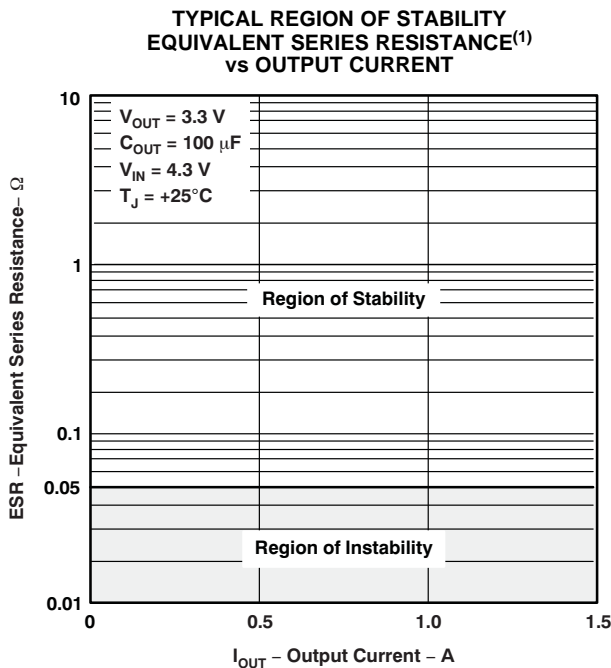
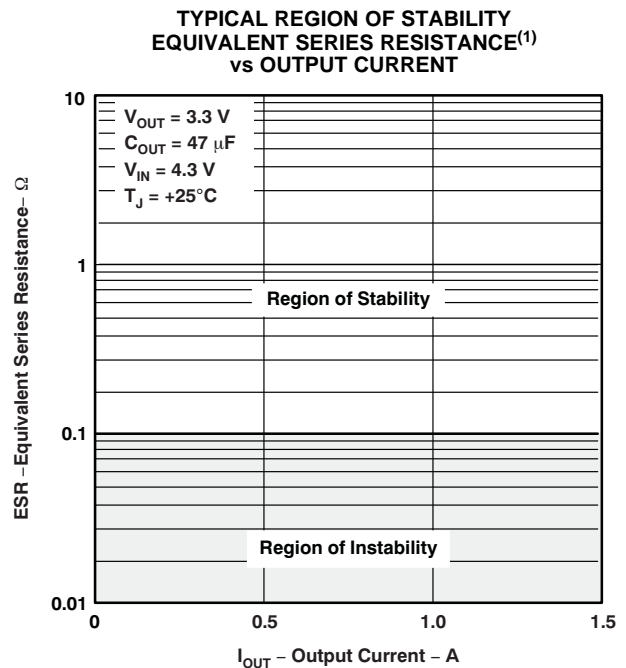

Figure 20.
Figure 21.
**Test Circuit for Typical Regions of Stability (Figure 20 and Figure 21) (Fixed Output Options)**
This information, along with the ESR graphs (see Figure 20 and Figure 21), is included to assist in selection of suitable capacitance for the user's application. When necessary to achieve low height requirements along with high output current and/or high load capacitance, several higher ESR capacitors can be used in parallel to meet these guidelines.